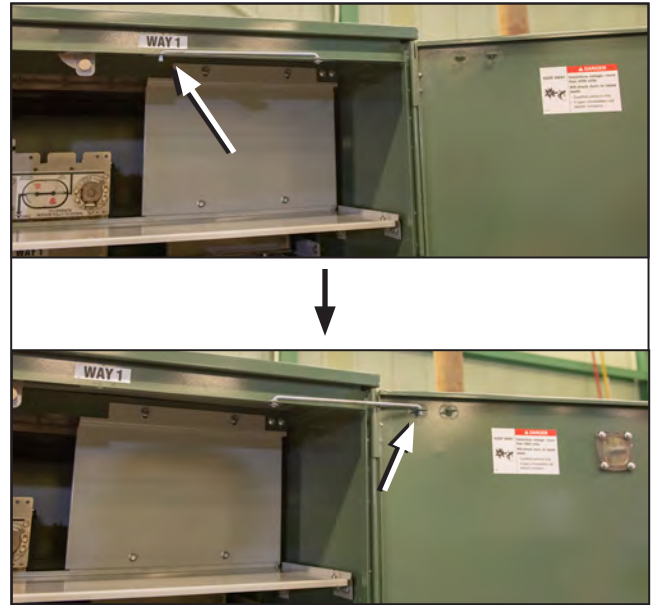

Figure 5. Using the door holders to hold the door open.
- STEP 2.** Open the right door fully and latch the door holders to the desired open position. There are two open positions to choose from. See Figure 5.